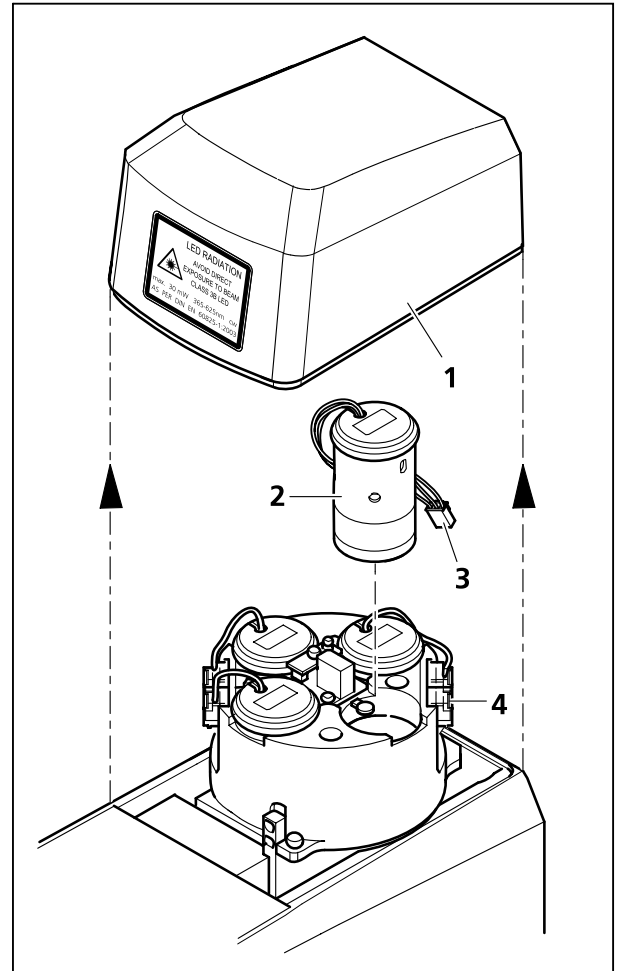

Fig. 3-49 Changing the LED module
- Lift the covering caps (Fig. 3-49/1) off the upper stand part.
- Remove the connecting plug (Fig. 3-49/3) of the LED module to be changed (Fig. 3-49/2) from the corresponding slot (Fig. 3-49/4) and pull the LED module out of its socket.